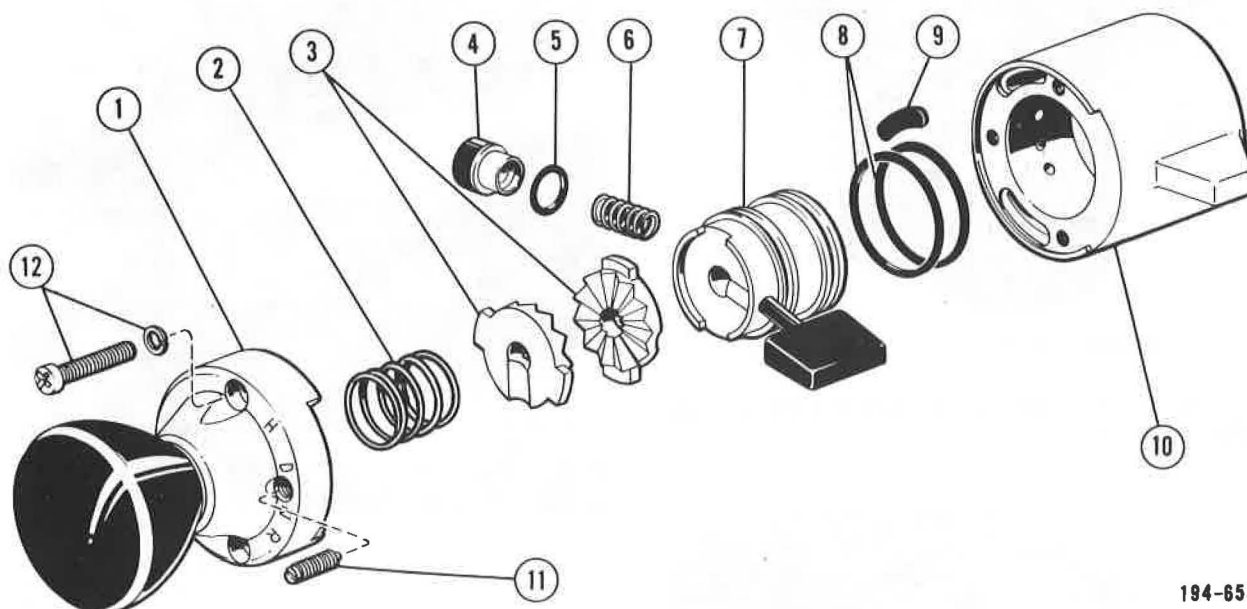

Figure 5-369. Air Breather
24. Clean air breather in Lo/Direct shift cylinder. See Figure 5-369.